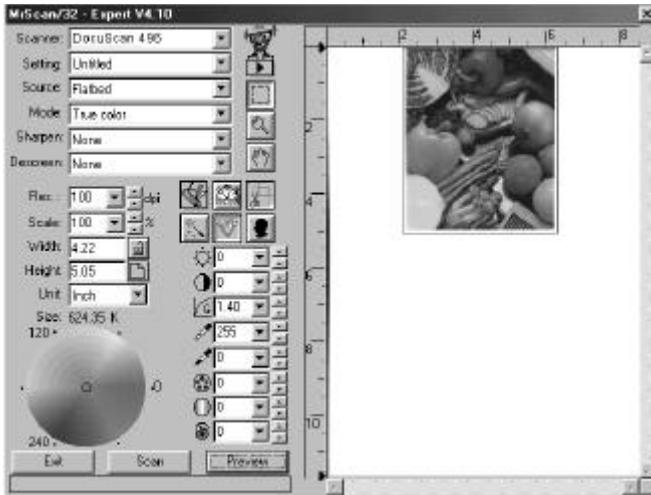

Figure 4-2 Avision TWAIN user interface
7. Avisision TWAIN user interface as Figure 4-2 will pop up on the screen. Click **Preview** or **Scan** button to scan the document.